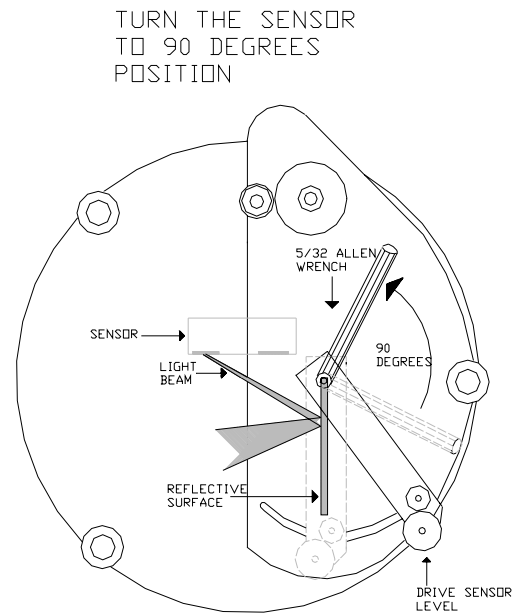

FIGURE 4
- Turn back the pivot screw in the counter clockwise direction exactly 90 degrees with the help of a protractor or some square device as shown in the figure 4.